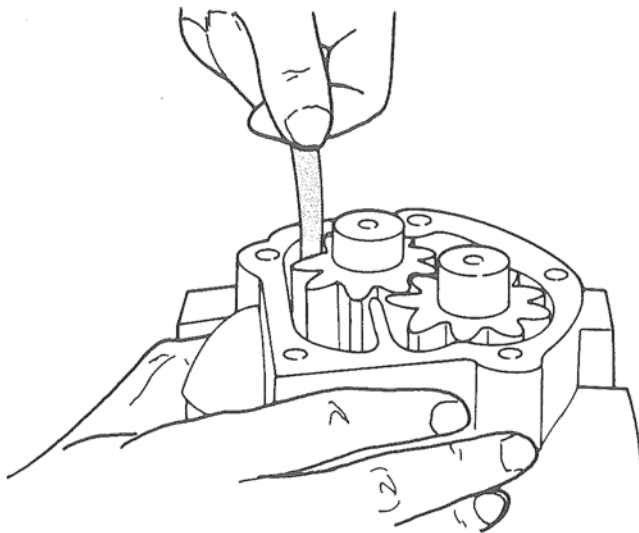

Figure 4. Measuring Gear to Body Clearance.
1. Measure clearance between gears and body. Figure 4.